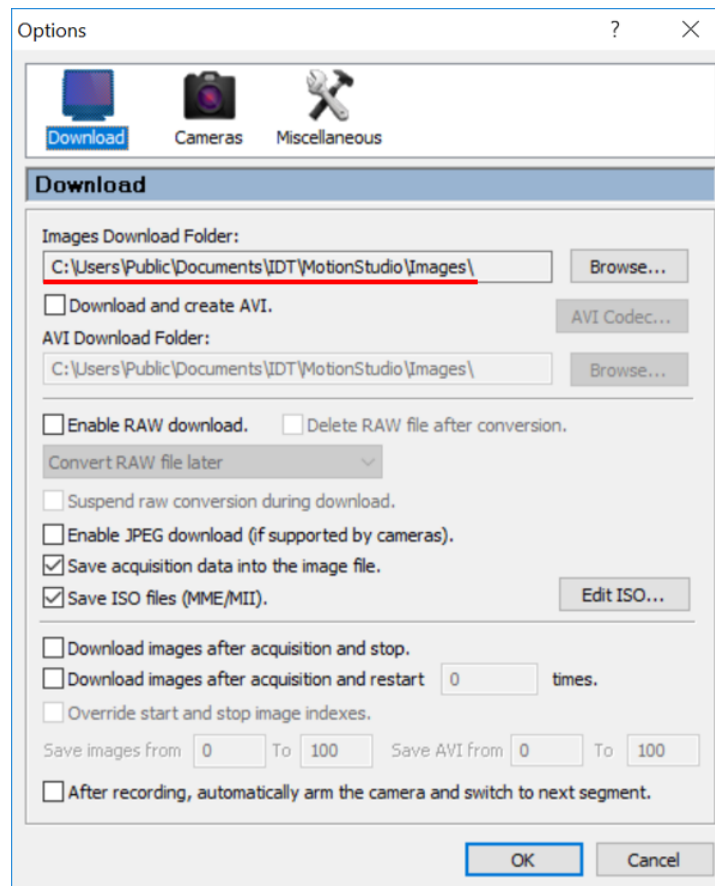
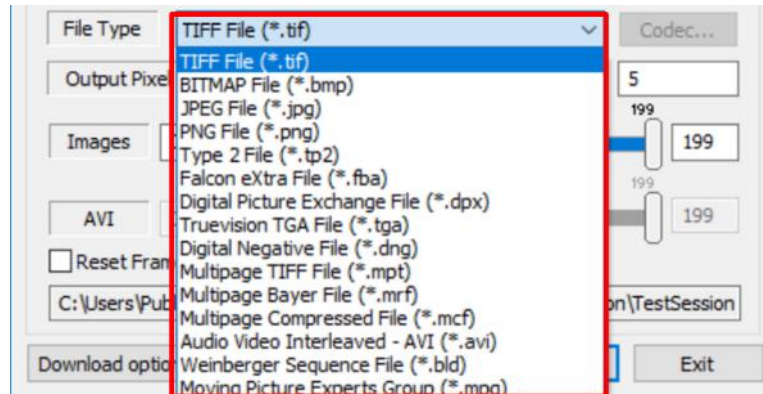

Fig. 49: The Options window showing the directory where files are saved to.
Fig. 62: The different options of output file types.
- 6) In the “Save Acquisitions” pop-up window, settings to the exported video and images/frames can be specified. The *Session name* and *File Type* can be set. Note: To see the *file type* options shown in **Fig. 62**, ensure that “Enable RAW download” remains unchecked in the Options window (**Fig. 49**).